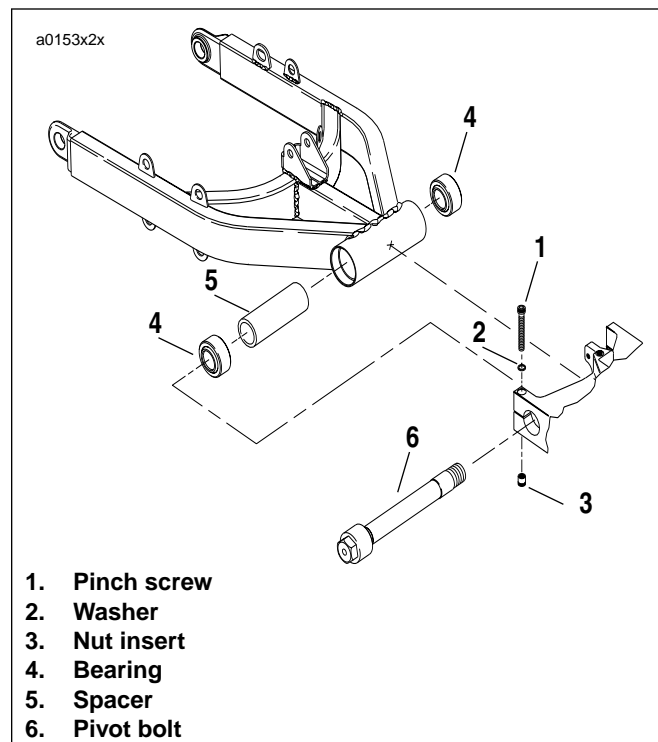

Figure 2-100. Swingarm
11. See Figure 2-100. Loosen swing arm pinch screw (1).
12. Remove swingarm pivot bolt (6) and swingarm.
14. Use slide hammer (SNAP-ON Part No. CJ1275 or equivalent) and bearing remover to remove bearings (4).
15. Remove swingarm spacer (5).
1. See Figure 2-100. Install **new** bearings (4) and spacer (5).
2. Position swing arm in mounting block. Apply anti-seize to swingarm bolt (6) and install. Tighten to 24-26 ft-lbs (33-35 Nm).
3. Apply LOCTITE 243 BLUE to pinch screw (1) and install. Tighten to 17-19 ft-lbs (23-26 Nm).